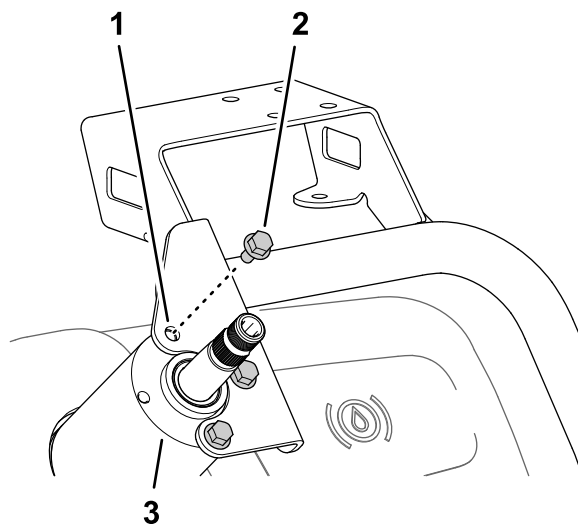

Figure 160
2. Assemble the monitor mount to the housing of the steering valve (Figure 160) with the 3 flange-head bolts (6 x 12 mm).